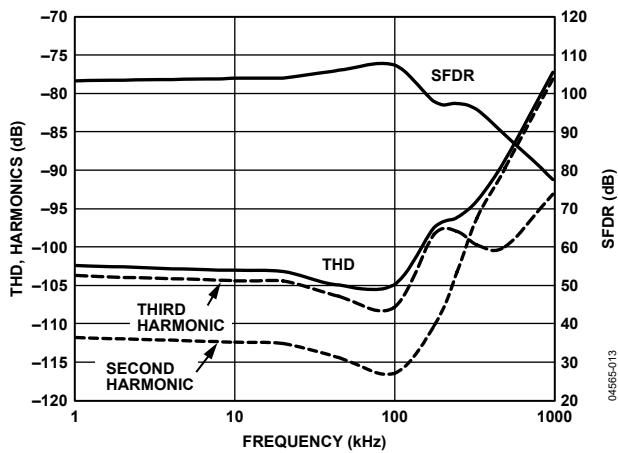

Figure 14. THD, Harmonics, and SFDR vs. Frequency
- The driver needs to have a THD performance suitable to that of the AD7621. Figure 14 gives the THD vs. frequency that the driver should exceed.